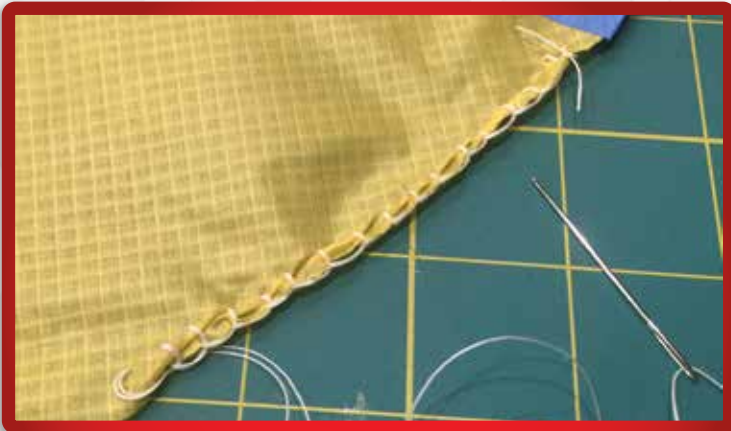

FIGURE 7. USE A "CARPET STITCH" TO SEW THE CANOPY DISK TO THE MESH DISK.
- d) Sew the canopy disk to the mesh disk. If hand sewing, a "carpet" stitch⁶ is good for connecting two pieces of fabric. Stitches should be made with $\sim\frac{1}{4}$ " spacing and $\frac{1}{4}$ " offset inboard from the edge of the disk. The stitches should be moderately snug but not excessively tight. A bit of slack/looseness will allow the stitches to "relax" into a nice pattern. See Figure 7.